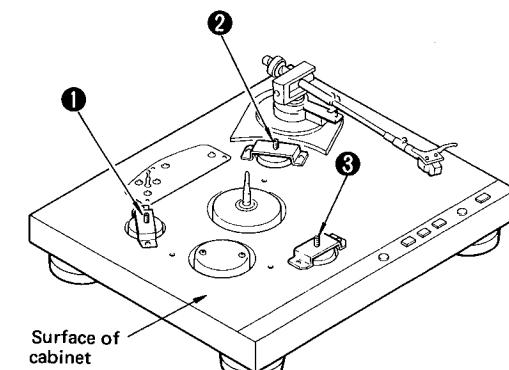

Fig. 1
- Adjust so that the space between platter and surface of cabinet is 4 mm ± 0.2 mm by turning screws ① to ③ in Fig. 1.